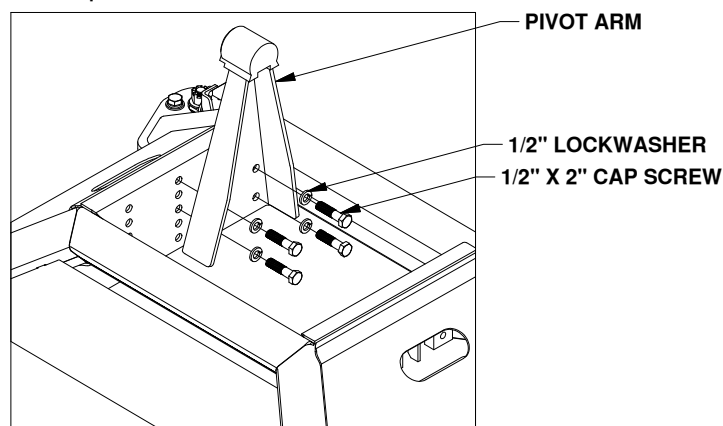
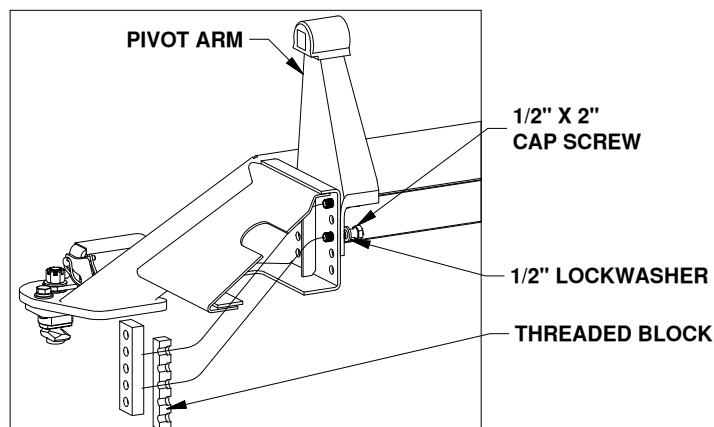

Figure A2: Passenger pivot arm mounting location.
Figure A3: Cutaway view of passenger side bolt plate.
2. Locate both pivot arms, the four threaded blocks, eight 1/2" cap screws, and eight 1/2" split lock washers. Place the lock washers over the cap screws. Align the flat side of the pivot arm flat against the bolt plate and install four 1/2" cap screws through the holes on the arm, holding the arm in place, as shown in Figure A2. Locate the threaded blocks. Note that the sides of the block have threaded holes on one side and smooth bored holes on the other side. When installing the threaded blocks it is critical that the side with the smooth holes is flat against the bolt plate when installed. It is also critical that each of the five holes in the threaded block match up with the five vertical holes in the bolt plate. Pass the threaded block under the bases side and align the block with each set of screws and start each screw, as shown in Figure A3. After all the screws are started through the arms, torque each bolt to 110 ft-lbs.